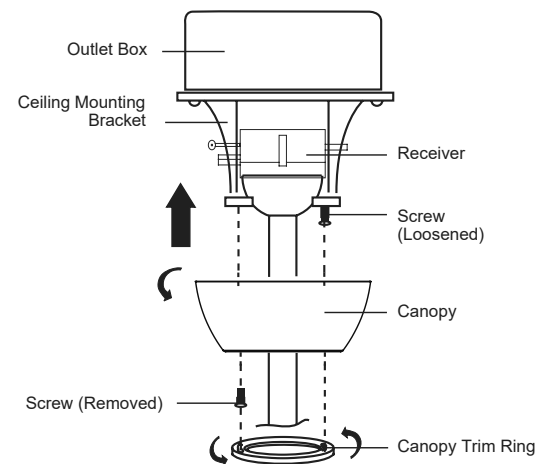

Fig. 12
Step 3. Carefully raise the canopy up to the ceiling mounting bracket and place the keyhole slot in the canopy over the screw head on the ceiling mounting bracket. Rotate the canopy until it locks in place against the screw at the narrow section of the keyhole slot. (Fig. 12)
NOTE: Adjust the screws as necessary until the canopy and canopy trim ring are snug. (Fig. 12)